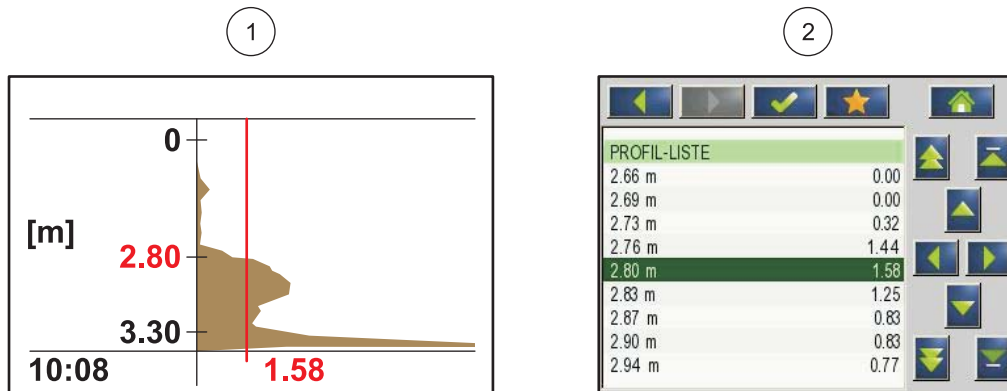

Figure 3 Profile as graphic and list
page 26) ((2) Figure 3). The graphic display (for example sc1000) shows the profile in the measurement operation as a graphic ((1) Figure 3).